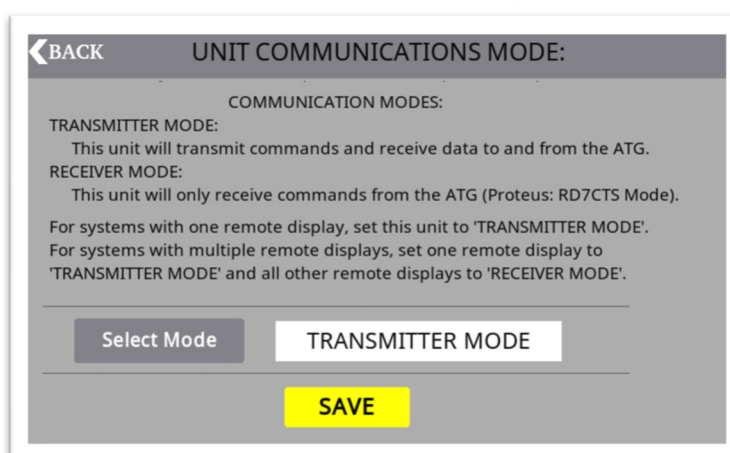

Figure 6.0
**RECEIVER MODE** will only receive data from the ATG controller. (See Figure 6.0)